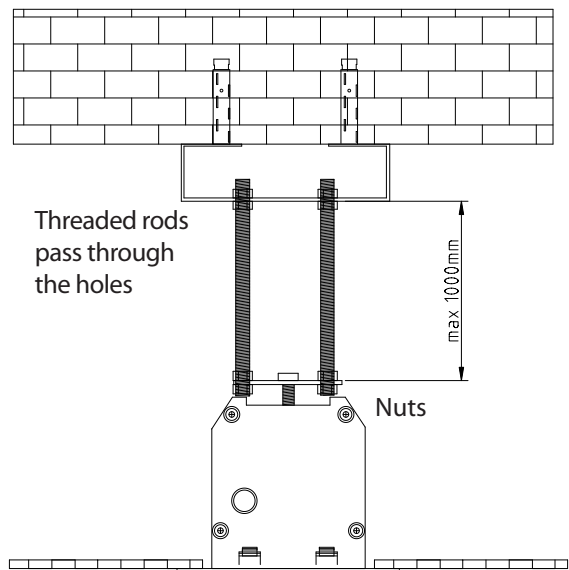

Figure 5
5. Move the screen into a horizontal position tightening the nuts and eliminating any gap between the ceiling and the trim (Fig 5). Use a spirit level to ensure that the screen is perfectly horizontal.